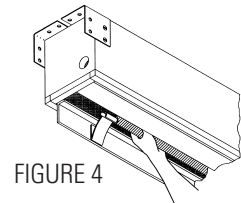

FIGURE 4
7. Lower picture surface approximately 4"-6" so that the slat will rest on top of the slat hooks. Gently lift slat up and ease it under the slat hooks (Fig. 4).